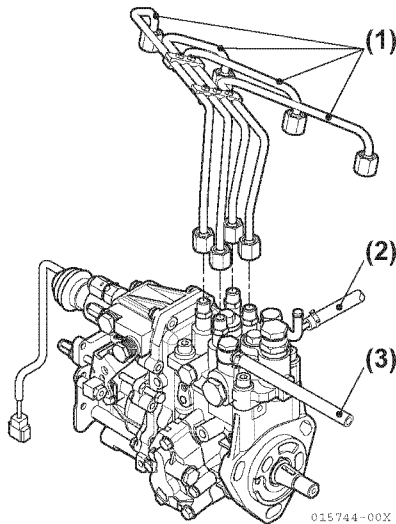

Figure 6-54
5. Remove the high-pressure fuel injection lines as an assembly (**Figure 6-54, (1)**).
8. Disconnect the fuel return lines from the fuel return fitting (**Figure 6-54, (2)**). Plug the open ends of the lines to minimize leaks and prevent contamination.
9. Remove the fuel supply line (**Figure 6-54, (3)**). Plug the open end of the line to minimize leakage and prevent contamination.